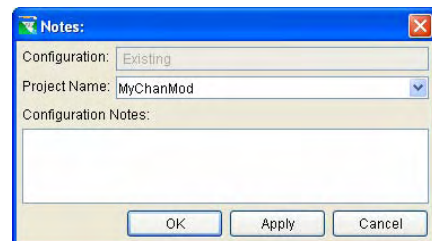

Figure 6.19 Configuration Notes for Channel Modification
2. From the shortcut menu, select **Configuration Notes**. This command opens a dialog box (Figure 6.19) for entering text information about a project that is specific to the configuration.